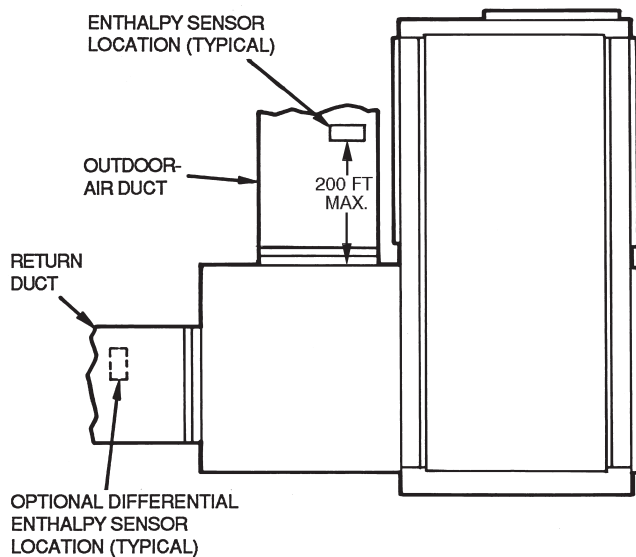
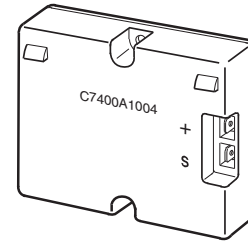

Fig. 11 — Installing the Enthalpy Sensor
Fig. 12 — Enthalpy Sensor
Refer to Fig. 11 and perform the following steps:
3. Mount the supplied enthalpy sensor (Fig. 12) inside the outdoor-air duct no more than 200 feet from the unit, as shown in Fig. 11. Use the holes in the sensor base as guides to fasten it to the duct with supplied self-tapping screws, or drill holes into the duct and fasten the sensor in place with field-supplied sheet metal screws.
2. The economizer accessory includes one enthalpy sensor. If economizer operation based on enthalpy differential between outdoor and return air is desired, differential enthalpy sensor part no. HH57AC078 (Honeywell part no. C7400A1004) must be ordered. See Fig. 12.
3. Mount the differential enthalpy sensor inside return air duct as shown in Fig. 11. Use the holes in the sensor base as guides to fasten it to the duct with self-tapping screws, or drill holes into the duct and fasten the sensor in place with field-supplied sheet metal screws.
7. Mount the enthalpy sensor inside outdoor-air duct as shown in Fig. 11. Use the holes in the sensor base as guides to fasten it to the duct with self-tapping screws, or drill holes into the duct and fasten the sensor in place with field-supplied sheet metal screws.